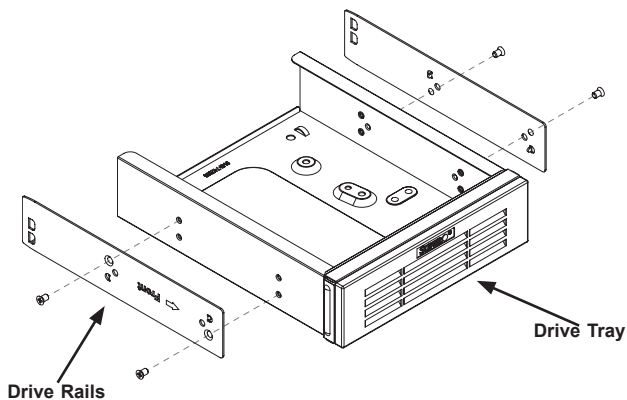

Figure 6-8. Removing Rails from the Drive Tray
2. Locate the release tab for the drive tray where you want to place the peripheral drive (Figure 6-8).